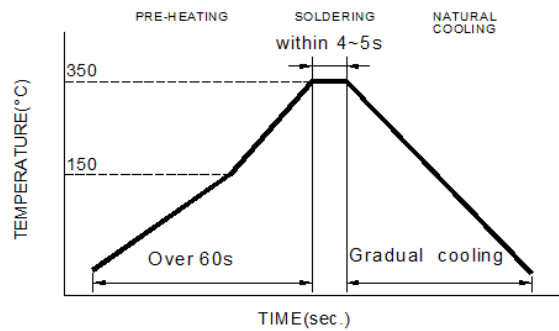

Figure 2. Wave Soldering:1 times max
**8-2 Soldering Iron (Figure 2):**